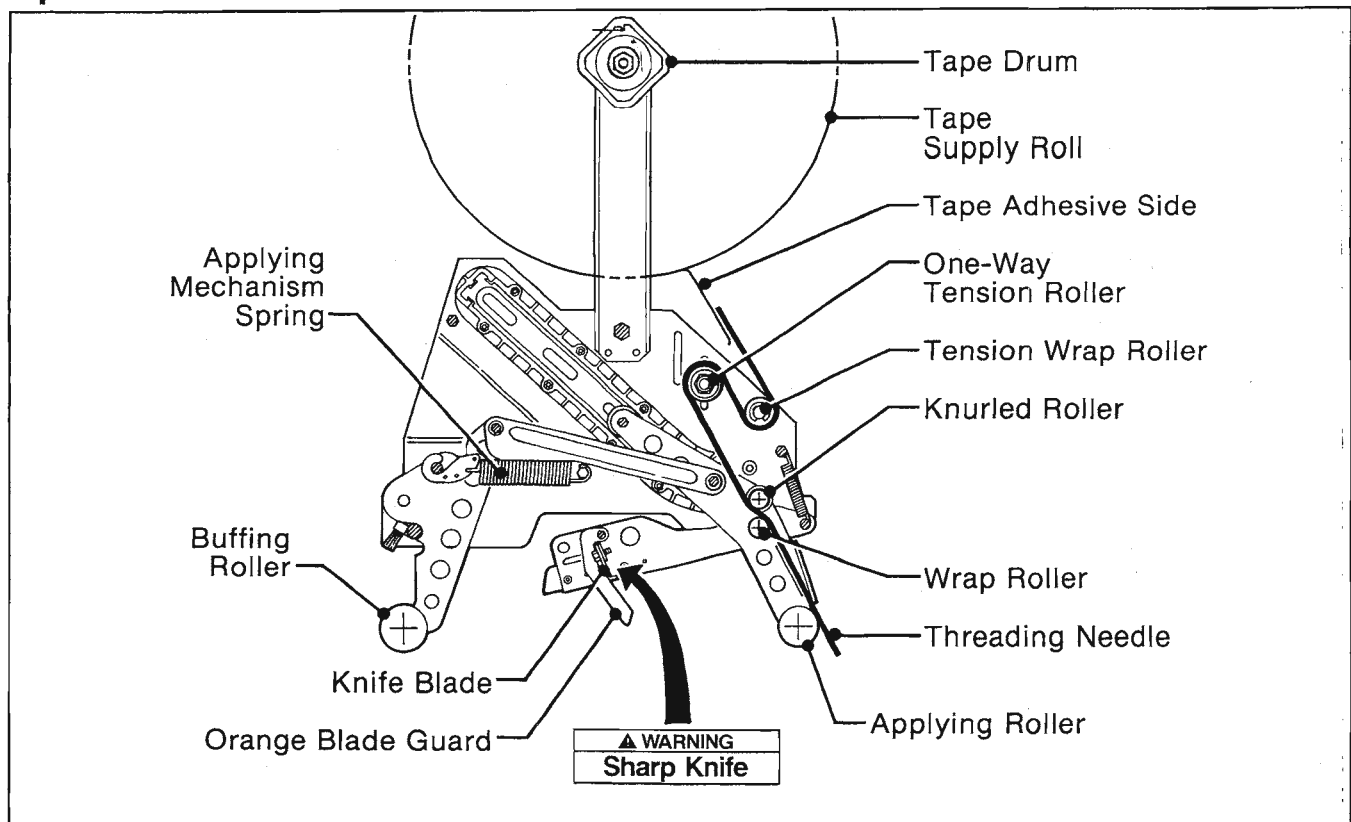

Figure 3-1 – Taping Head Components/Threading Diagram, Upper Head (Left Side View)
Before working with the taping heads or loading/threading tape, refer to Figures 3-1 and 3-2 to identify the knife blade location. **Keep hands out of these areas except as necessary to service the taping heads or to load/thread tape.**
WARNING – Taping Heads utilize extremely sharp knife blades. The blades are located under the orange blade guard which has the "Warning – Sharp Knife" label. Before working with the taping heads or loading tape, refer to Figures 3-1 and 3-2 on page 6 and identify the blade location. Keep hands out of these areas except as necessary to service the taping heads.
3. The taping heads use extremely sharp knife blades. Before working with the taping heads or attempting to load/thread tape, refer to Figures 3-1 and 3-2 and identify the blade location. Keep hands out of these areas except as necessary to service the taping heads.
The applying mechanism spring, shown in Figures 3-1 and 3-2, controls applying and buffing roller pressure on the box and returns the mechanism to the reset position. The spring pressure is pre-set, as shown in Figure 5-3A for normal operation, but is adjustable.